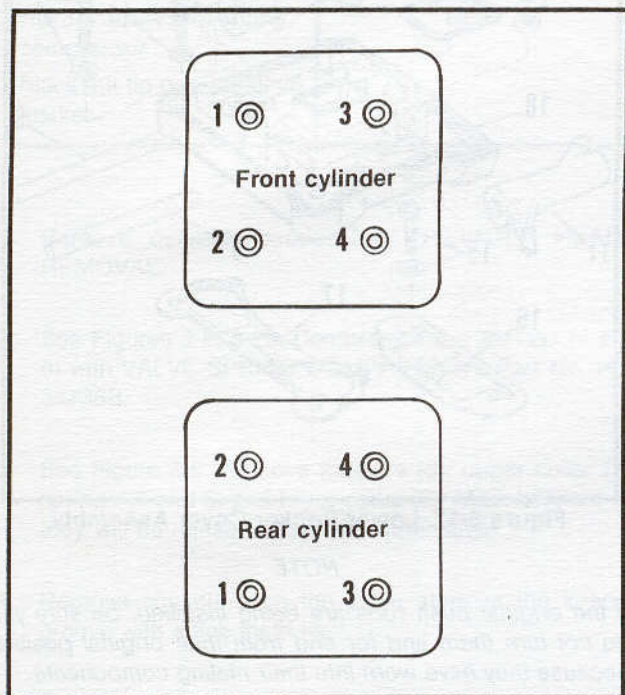

Figure 3-13. Cylinder Head bolts Torque Sequence
11. See Figure 3-9. Loosen each head bolt (1, 2) 1/8 turn following the cross pattern sequence shown in Figure 3-13.
12. See Figure 3-13. Continue loosening in 1/8 turn increments until bolts are loose.
- See Figure 3-13. The procedure for tightening the head bolts is extremely critical; not only to prevent gasket leaks, but to prevent studs' failure and heads and cylinders distortion.
- See Figure 3-13. With a torque wrench, start at the cylinder head bolt numbered "1" and tighten to 7 ft-lbs torque. Then tighten "2", "3" and "4", in order, to 7 - 9 ft-lbs torque.